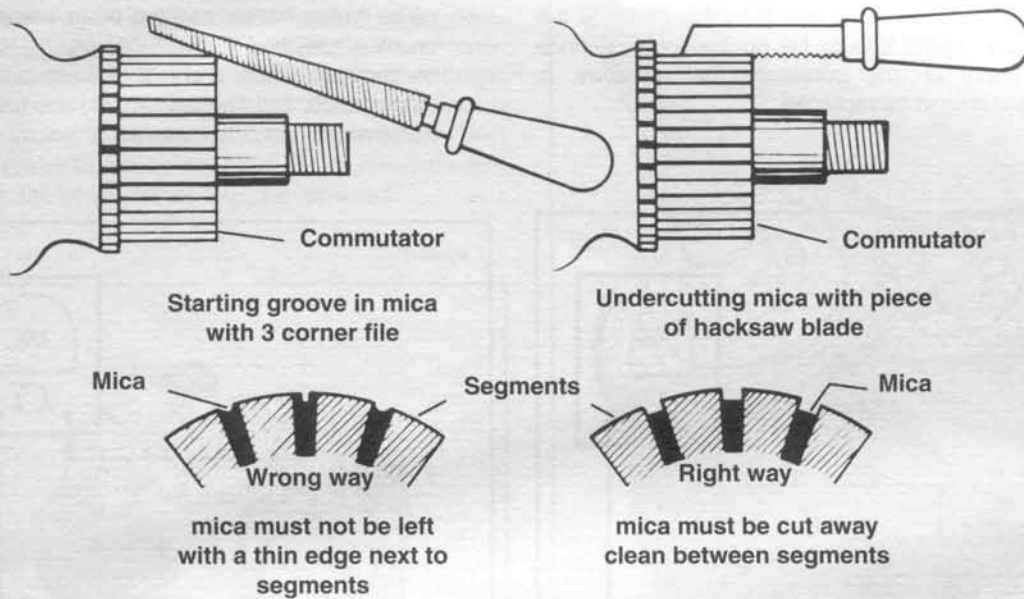

Figure 5-16. Undercutting the Mica Separators
9. See Figure 5-16. If an undercutting machine is not available, undercutting can be done satisfactorily using a thin hacksaw blade. After undercutting, lightly sand the armature with crocus cloth to remove any burrs.